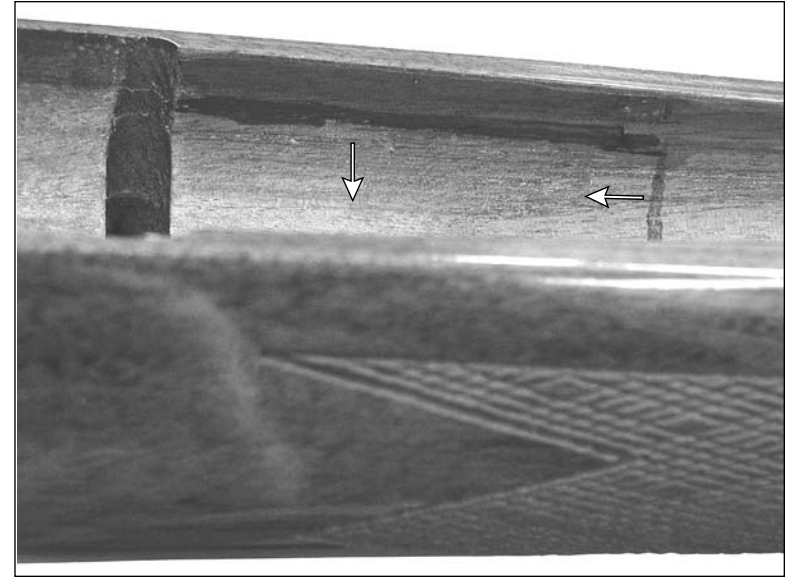

Figure 6A: Lines show borders of relief area. Only the stock material below and behind the black lines should be removed.
6. Use a felt marking pen and draw a line on each side of the channel parallel to the top of the stock line, approximately 1/4" down. Extend these lines approximately 2" forward of the receiver ring. (See Figure 6A).